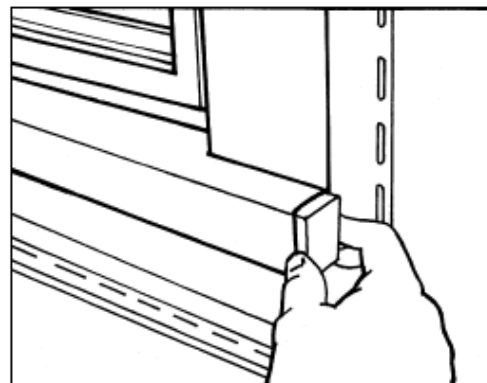

Figure 11
- 5) Install the lineal, sliding down over the side lineals and nailing loosely every 8" to 12". (Figure 11)